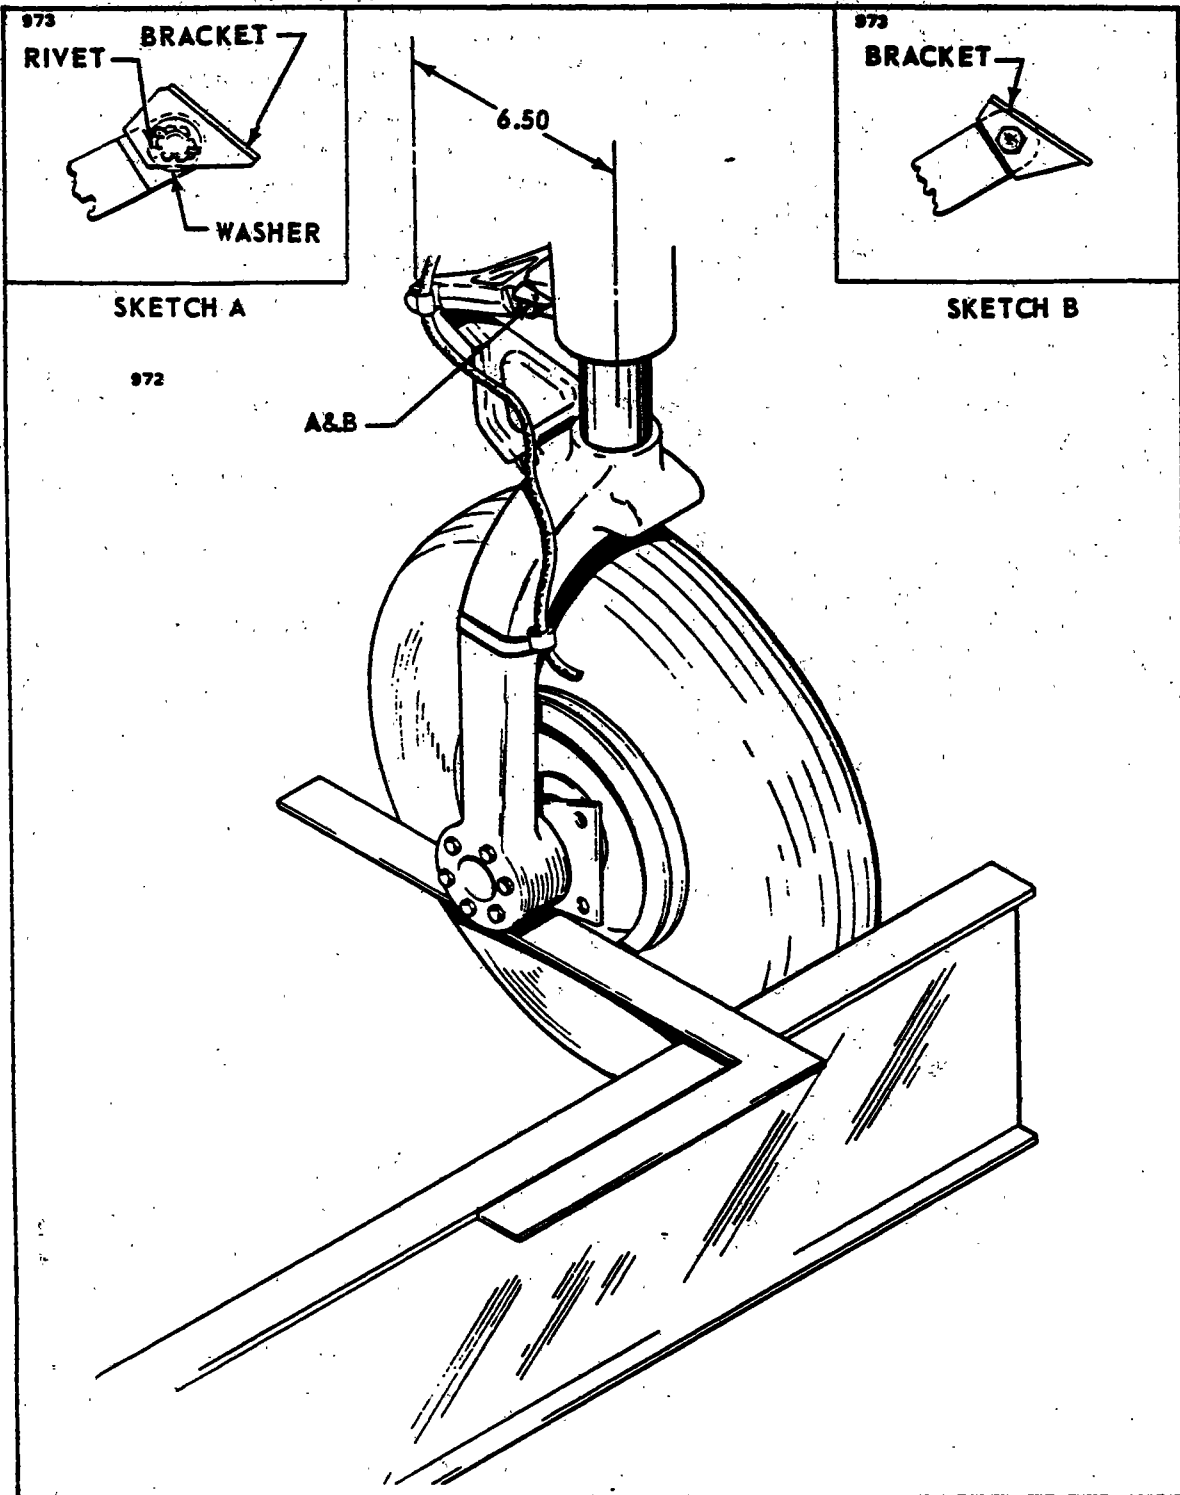

Figure 7A-10. Aligning Main Gear
a. Place a straightedge no less than twelve feet long across the front of both main landing gear wheels. Butt the straightedge against the tire at the hub level of the landing gear wheels. Jack the airplane up just high enough to obtain a six and one-half inch dimension between the centerline of the strut piston and the centerline of the center pivot bolt of the gear torque links. (Refer to Figure 7A-10.) Devise a support to hold the straightedge in this position.
b. Set a square against the straightedge and check to see if its outstanding leg bears on the front and rear side of the brake disc. (It may be necessary to remove the brake assembly to have clear access to the disc.) (Refer to Figure 7A-10.) If it touches both forward and rear flange, the landing gear is correctly aligned. The toe-in for the main landing gear wheels is  $0 \pm 1/2$  degrees.